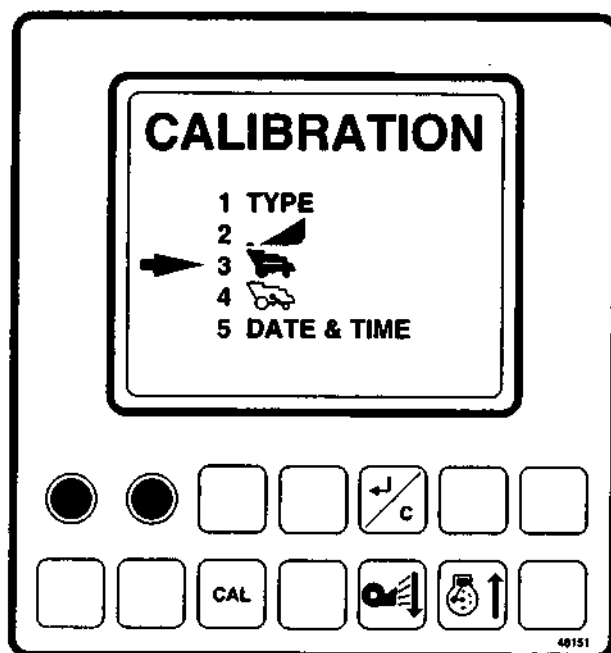

Fig.39
2. Select line 3 ("GROUND SPEED") (Fig. 39) by pressing  or , and .